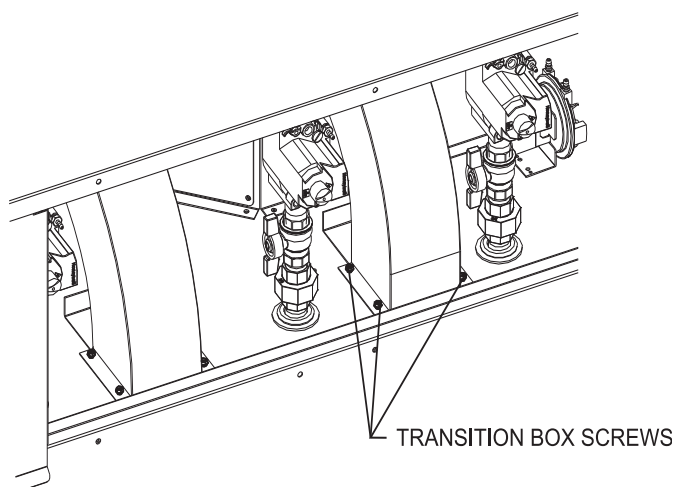

Figure 53 – Loosening Fan Transition Box Screws
2. Slightly loosen screws that attach fan transition box to metal base (see Figure 53).